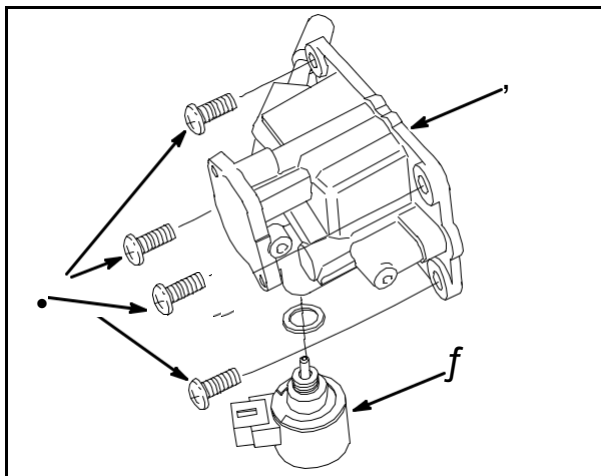

Fig. 130
Remove four screws (1) and float bowl (2), **Fig. 130**. Discard gasket.